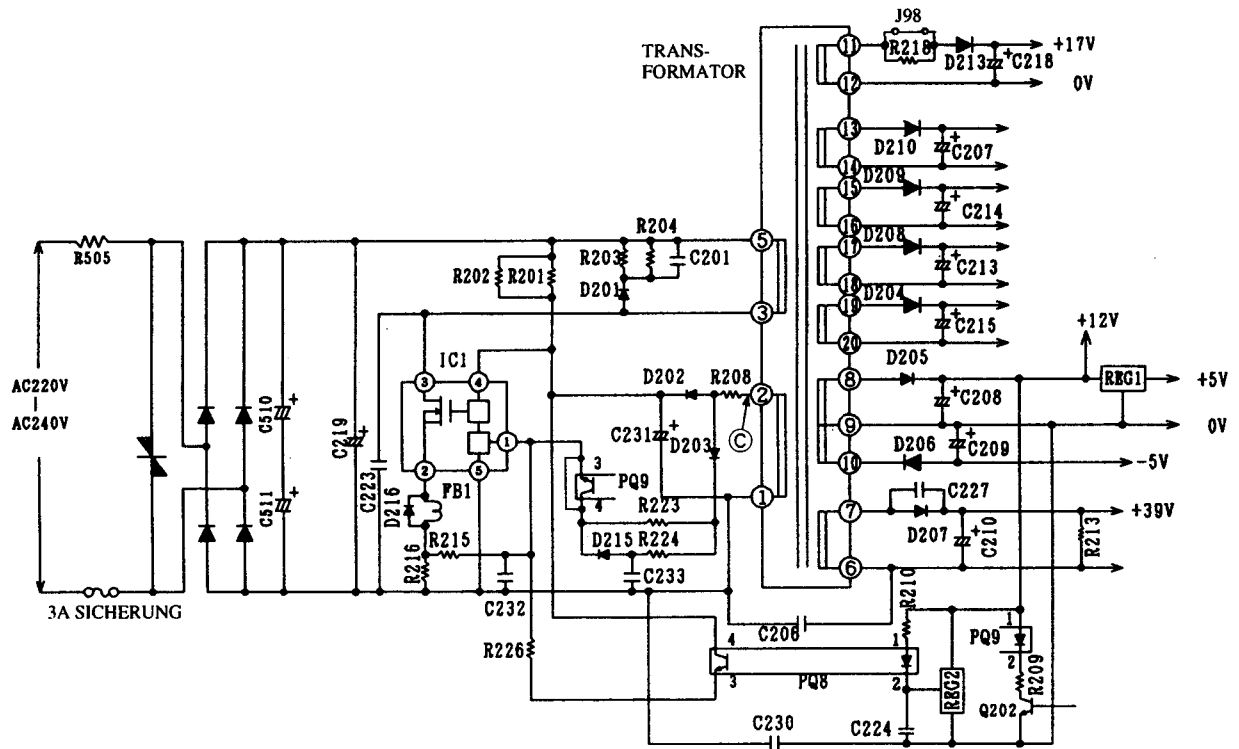

Abb. 4-1 Stromschaltkreis für Leiterplatte
(1) Shifting from OFF to ON
- DC about 300V is applied from smoothing capacitors C510 \oplus and C511 \ominus in the control power circuit. With this power, current flows to pin ④ of IC1 via R201 and R202 and IC1 starts to turn ON. Since voltage in the direction of arrow generates at point ③ at the same time, current passing through R208 and D202 is positive-fed back to IC1.
- **Abb. 4-1 zeigt den Stromschaltkreis für die Leiterplatte und die Wellenform für jeden Punkt.**